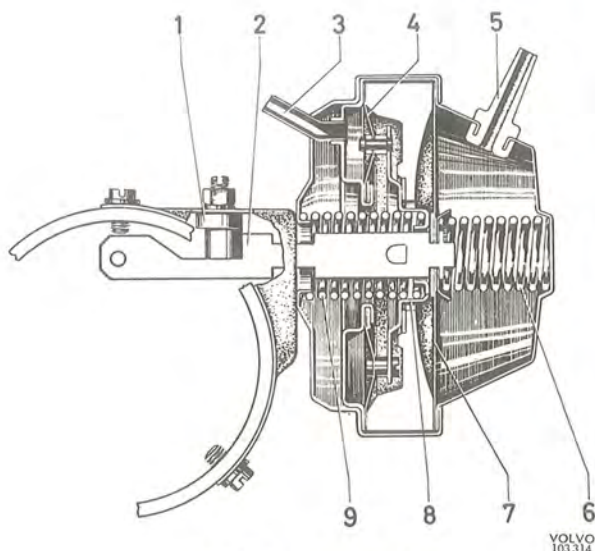

Fig. 3-49. Vacuum regulator
The vacuum regulator has two diaphragms and is constructed so that during engine braking or idling it lowers the firing during the basic adjustment. When engine braking or idling takes place, the throttles in the carburetors are closed so that there is no vacuum in the connection from the carburetors (5, Fig. 3-49) so that the return spring, 6, presses back the primary diaphragm, 7, against the stop, 8. The pull rod (2) which is secured to the primary diaphragm (7) transmits the movements in the diaphragm to the breaker plate. If the vacuum in the connection from the intake manifold (3) is sufficiently large, pull the secondary diaphragm (4) from the stop (8) and this lowers the firing during the basic adjustment.